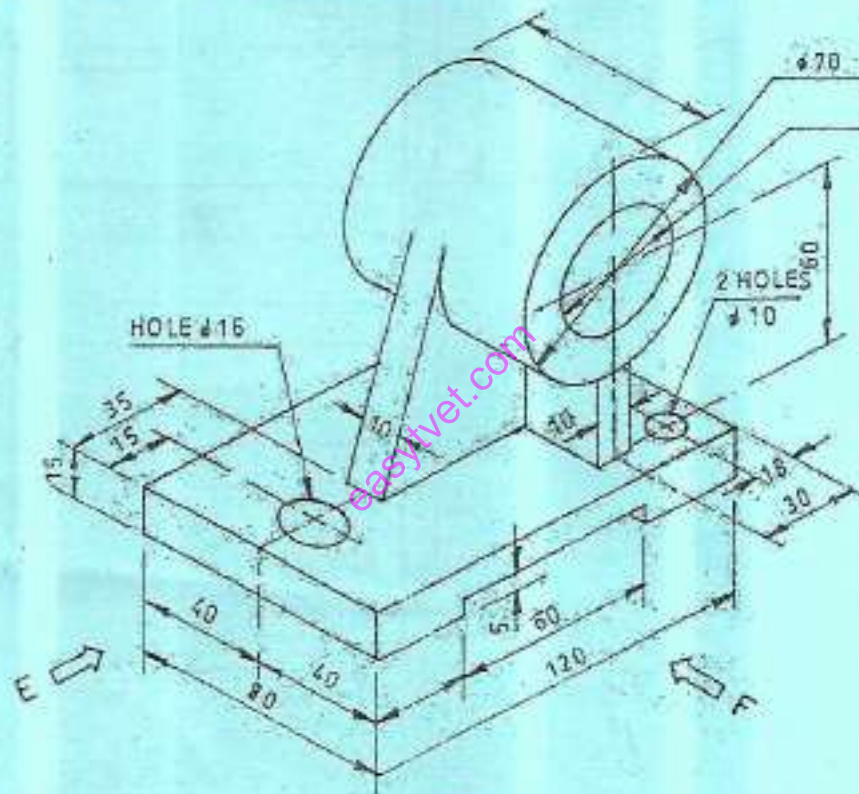

Fig. 2
3. Figure 2 shows a pictorial view of a support bracket. Draw the following views in first angle projection.